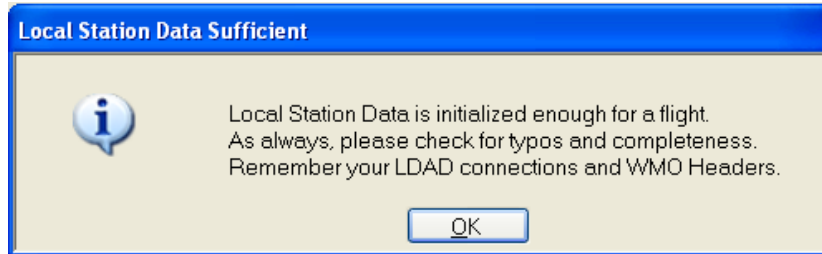

Figure B-22: LDAD Station Data Sufficient
- Click **OK** to close the Station Data Display. The *Local Station Data Sufficient* window is displayed (Figure B-22).